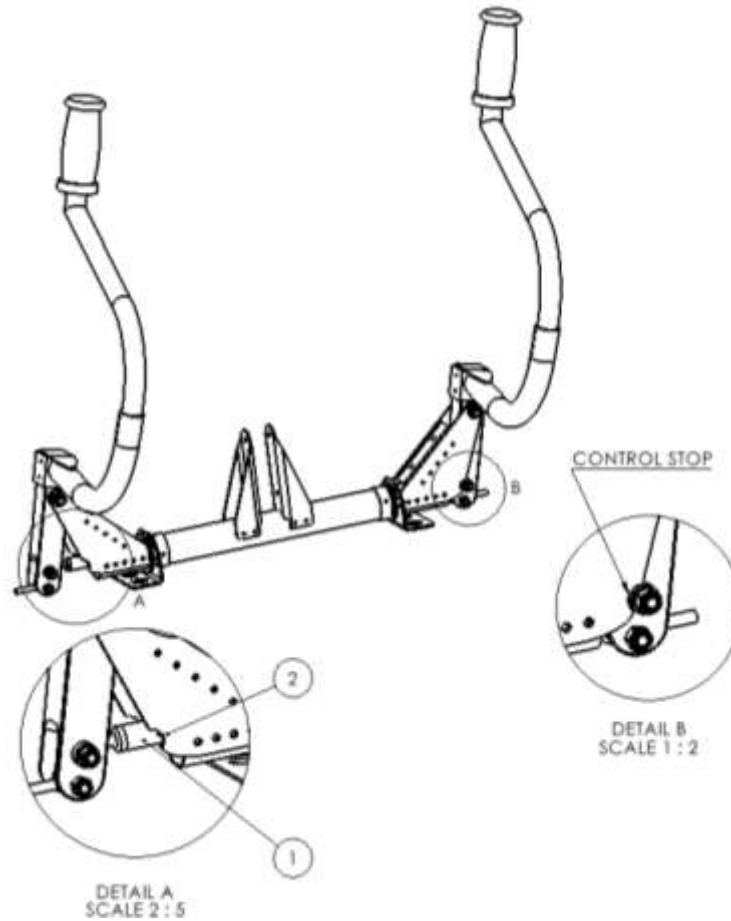

Figure 14: Aileron adjustment - cabin side.
5. Loosen the lock-nuts and turn the small connecting pushrod (1) in or out so that with the left stick completely vertical, the right-hand stick is also completely vertical. Refer to Figure 14.